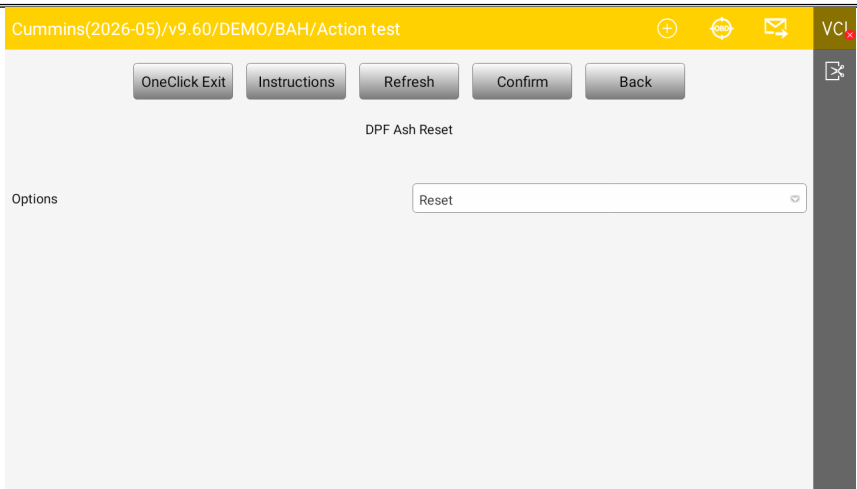

Figure 4.3.5-1 DPF Ash Reset
- Confirm [Reset] to perform DPF Reset, Confirm [Reset] to perform DPF Reset as shown in Figure 4.3.5-1;